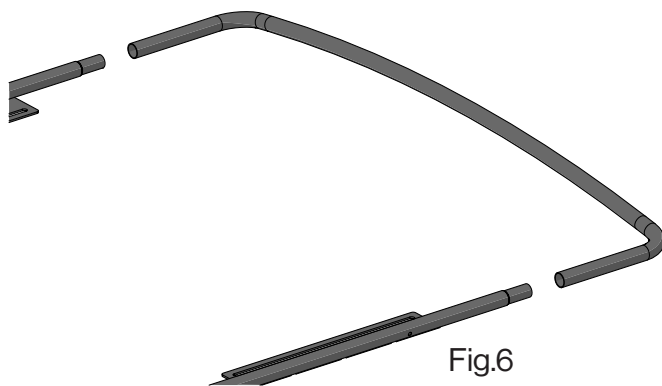

Fig. 6
Connect the rear U-shaped rear tube (G) as shown in Fig. 6.